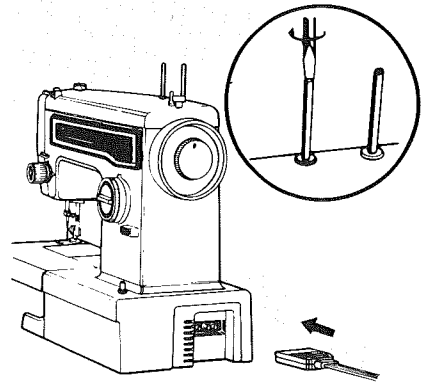

Fig. 4
4. Spool pins are packed in accessory box. Screw thread spool pins in place securely with a screw driver. Position nylon discs as shown in illustration. (Fig. 4)